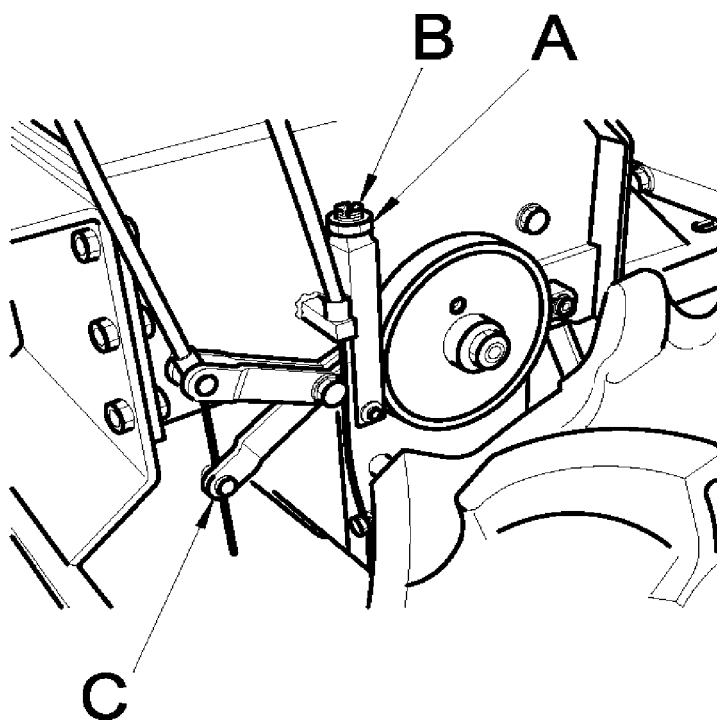

Figure 8
- using the brake cable clamp (Fig.8 Ref.C).
- Loosen the M12 nut (Fig. 8 Ref.A)
- Tighten the M12 screw (Fig. 8 Rif.C) until the machine halts instantly when the forward clutch lever (Fig. 1, Ref. A) is released.